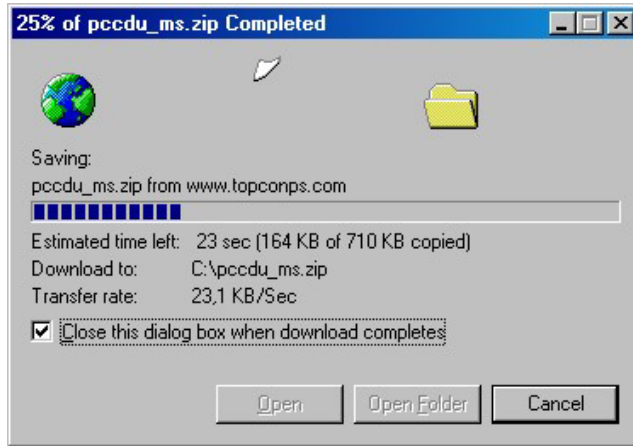

Figure 4. Copying data from the website to your computer's disk drive.
5. Wait while the archive is being downloaded onto your system (Figure 4).